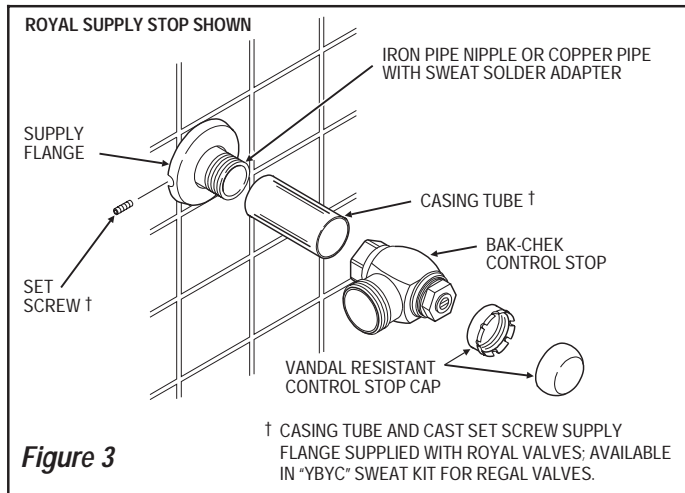

Figure 3
Step 1 — Control Stop Installation (Figure 3)